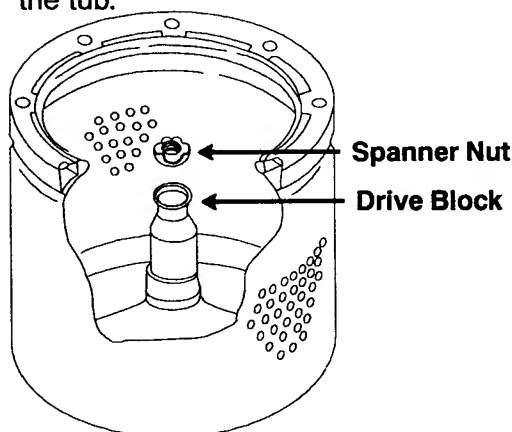

Fig. 58
4. Complete the removal of the basket by loosening the spanner nut on the spintube and expand the drive block with a wide bladed screw driver. (Fig. 58) The basket can now be lifted straight up and out of the tub.